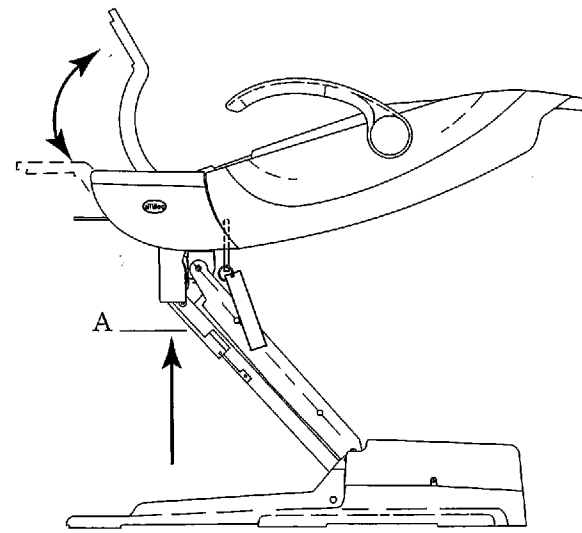

Figure 2. Chair cycles. (A) stop plate
2. Keep holding until the chair base and back are both in the full up position (see Figure 2).